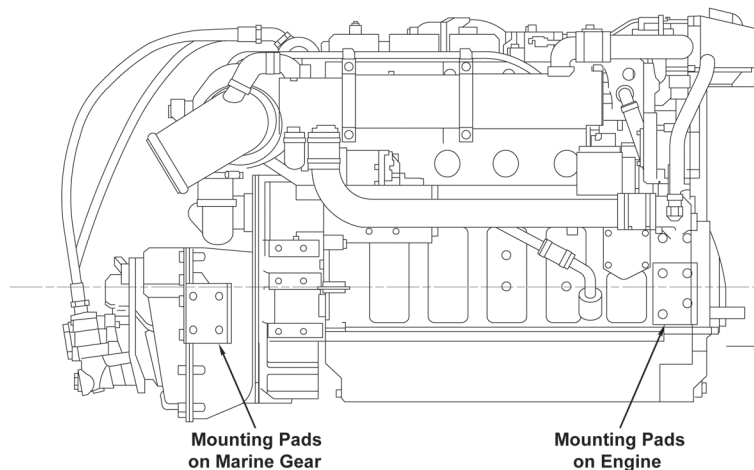

Figure 4-9: Engine Mounting Locations
If a solid engine mounting system is used, the proper support bracket locations must be used for mounting the engine and gear (see Figure 4-9). Use the mounting pads on the marine gear (1) and at the front of the engine (2) to absorb the propeller thrust.